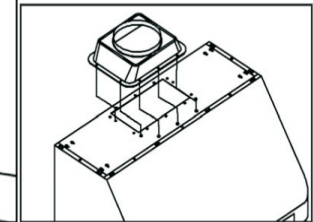

Figure 3
- Attach ducting transition to hood exhaust with included 10 round head screws as shown in Figure 3.